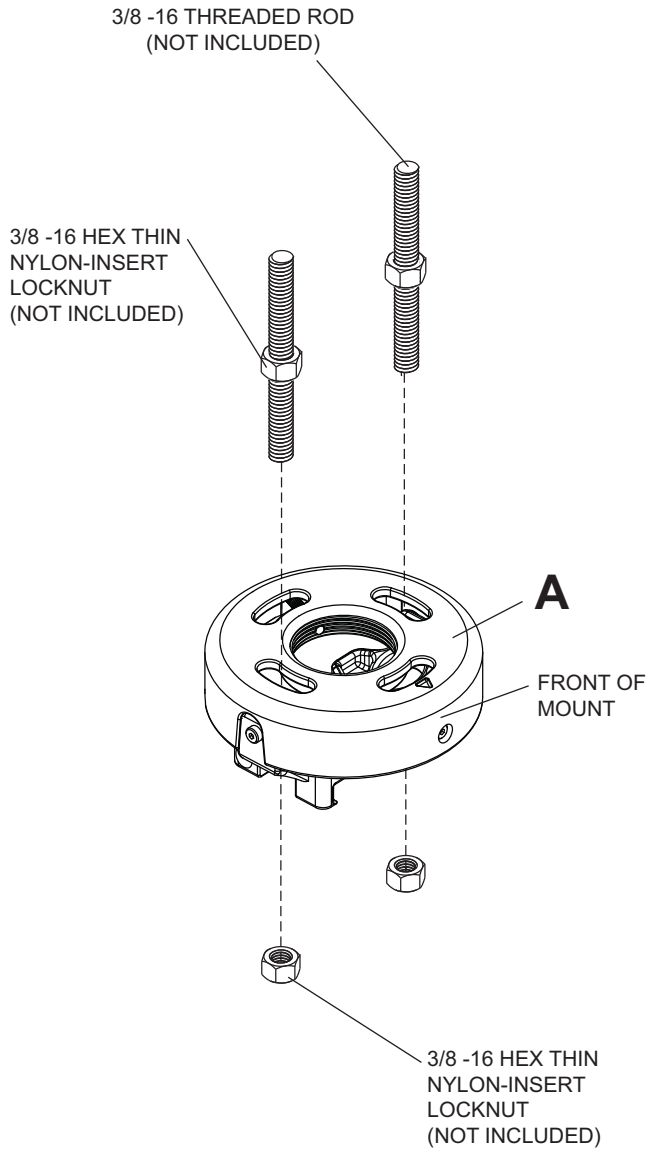
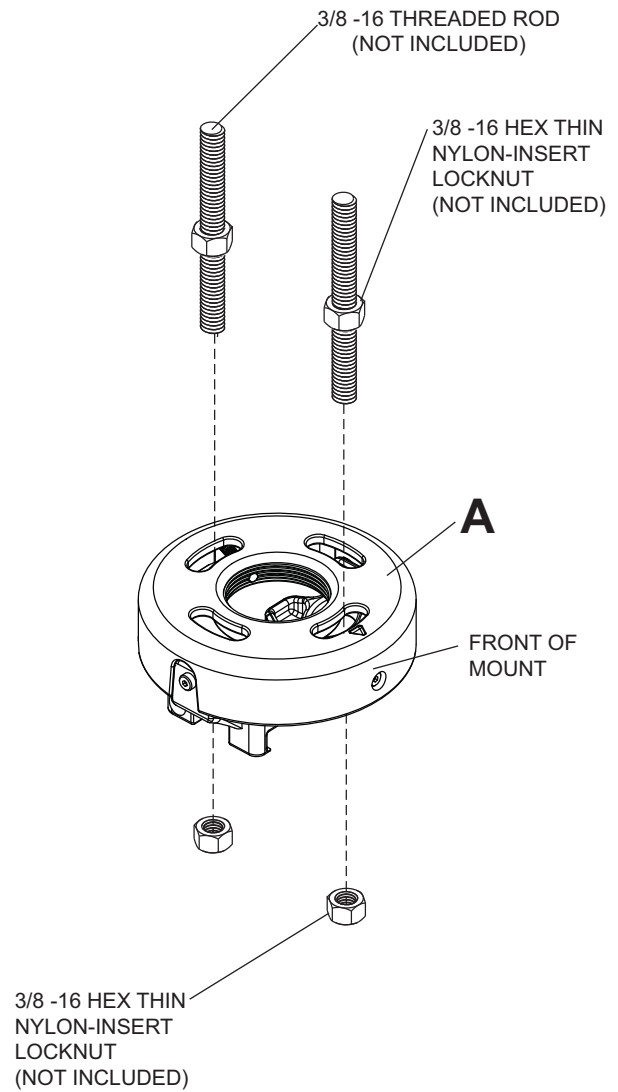

fig. 4.1
fig. 4.2
- 4** Thread two 3/8-16 hex thin nylon-insert locknuts (not included) on two 3/8-16 threaded rods (not included) to the desired height of projector mount assembly. Attach projector mount assembly (**A**) to the two 3/8-16 threaded rods using two 3/8-16 hex thin nylon-insert locknuts as shown in **figure 4.1** or **figure 4.2**.